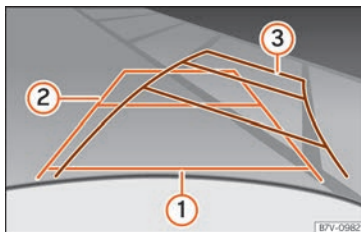

Fig. 276 Screen: orientation lines for the parking space behind the vehicle.
Meaning of orientation lines displayed on the screen »» Fig. 276. All of the lengths of the orientation lines use a vehicle located on a horizontal surface as reference.
- Reverse slowly and turn the steering wheel so that the yellow orientation lines guide you towards the space »» Fig. 276 ③.